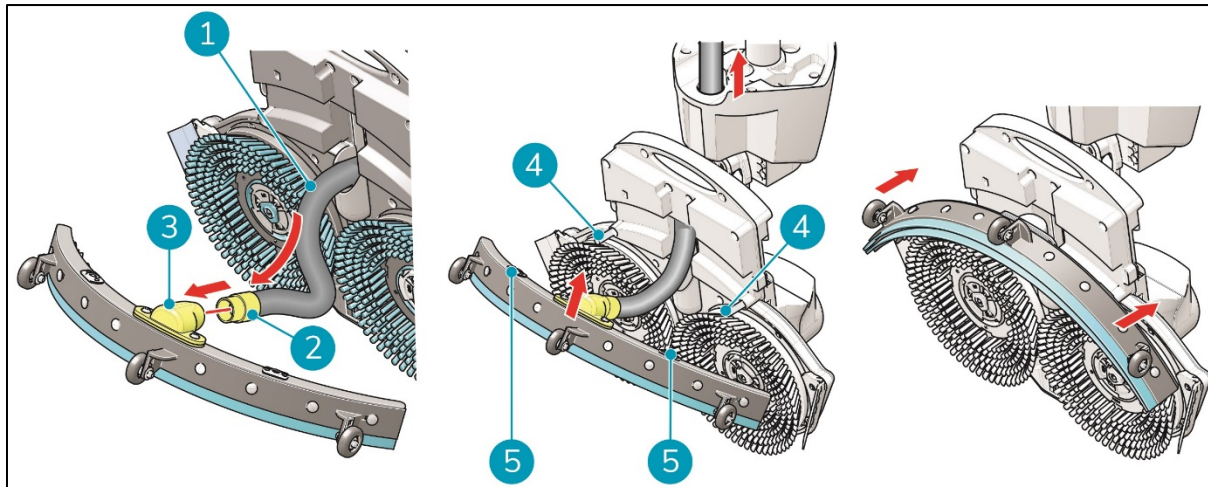

Figure 27
1. Take the vacuum hose (Figure 27, pos 1).
2. Insert the hose connector (Figure 27, pos 2) in the squeegee (Figure 27, pos 3).
3. Twist the hose connector 1/4 turn for a firm fit (Figure 27, pos 2).
6. Align the pins on the scrub deck (Figure 27, pos 4) with the holes on the squeegee (Figure 27, pos 5).